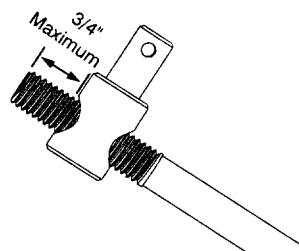

FIGURE 13
- Adjust the speed control by threading the ferrule inward so that **no more than 3/4-in. of the rod** is exposed beyond the ferrule. See Figure 13.